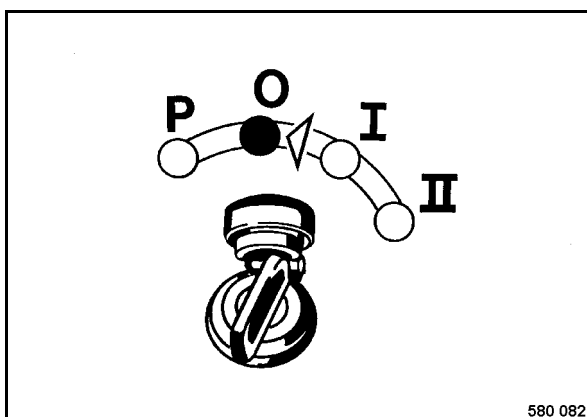

Fig. 48
- Turn the ignition key (Fig. 48) to position "0" to shut the engine down.